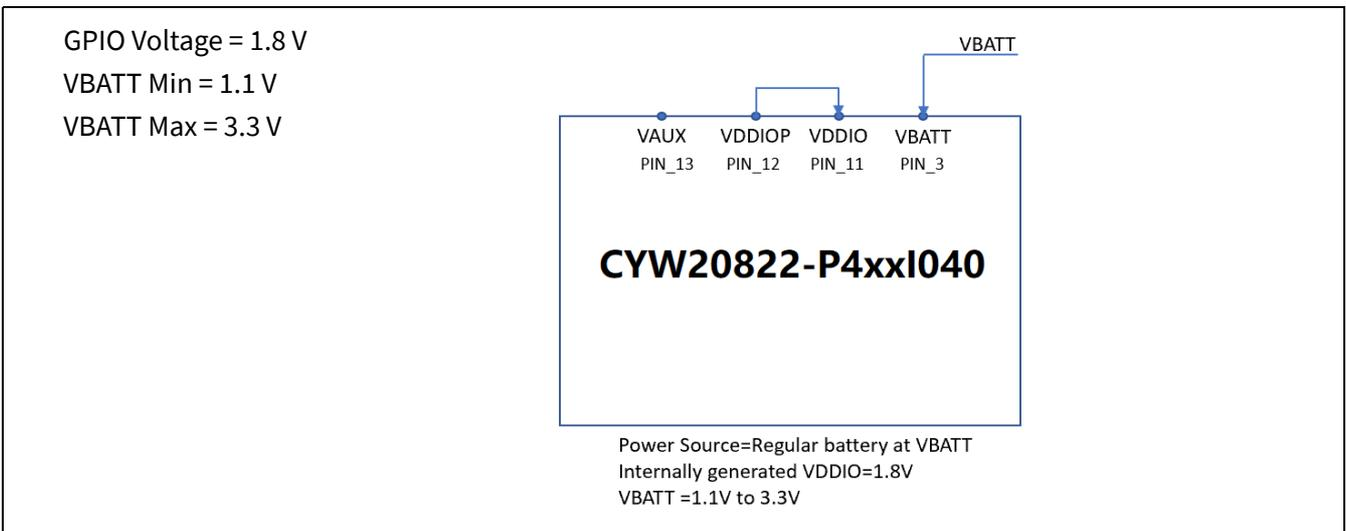

Figure 10 Regular battery, Internal I/O supply
- For applications that can use a fixed 1.8 V I/O supply for better power consumption or VBATT ≤ 1.8 V (see **Figure 10**).